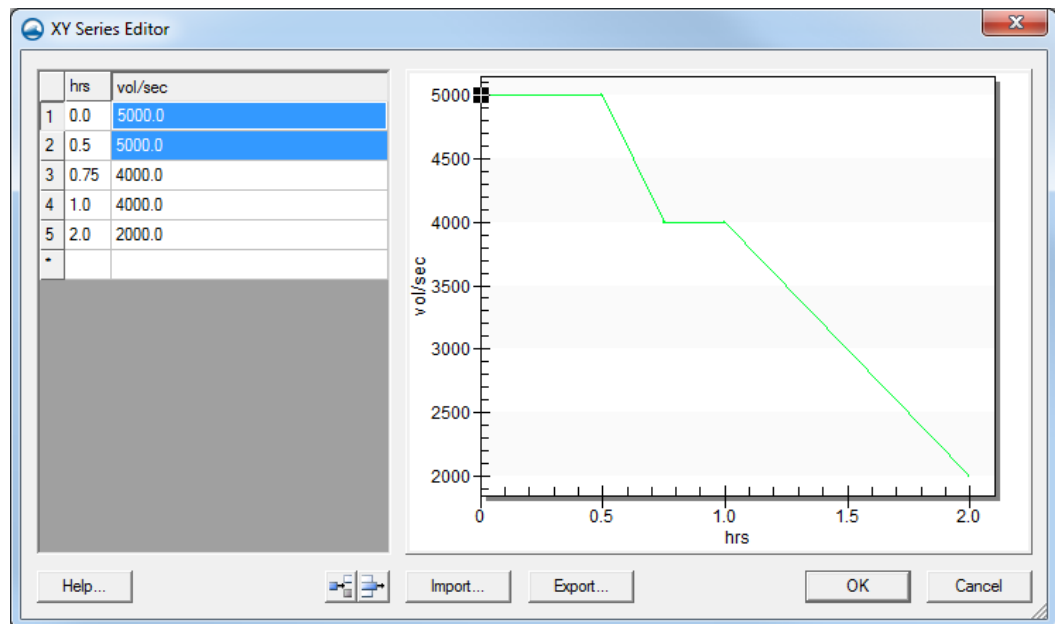

Figure 8 XY Series Editor
6. In the *XY Series Editor*, change the flow rate for time “0.0” and “0.5” to “5000” cfs as displayed in Figure 8.